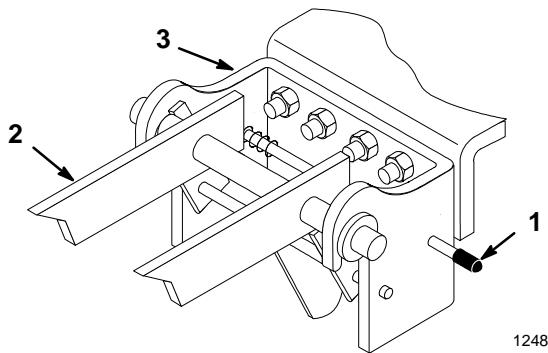

Figure 18
15. Open front hitch lock (Fig. 18) and remove snowblower mounting frame from front hitch.